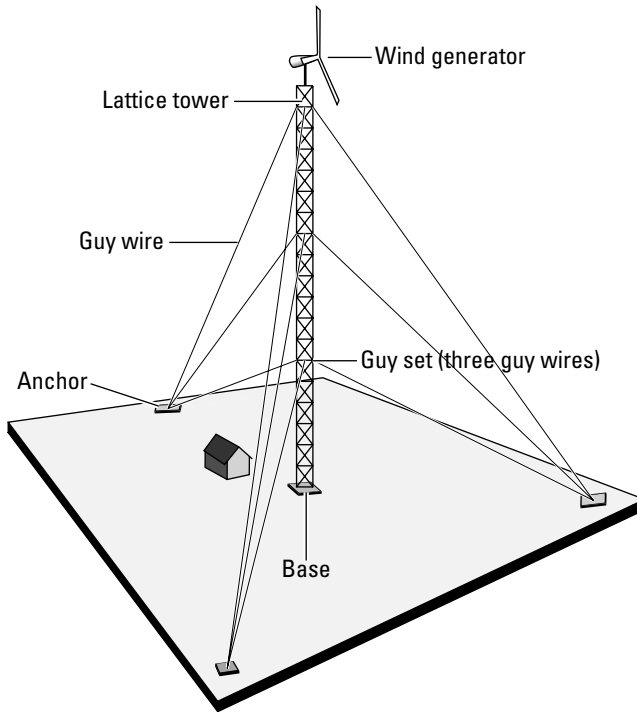

Figure 14-3:
Fixed guyed towers are very versatile because you can use them on a variety of site types and adapt them for a wide range of heights. Guy wires are attached at intervals to keep the usually lattice (but occasionally tubular) tower upright — without them, the tower would fall (see Figure 14-3). These towers don't tilt up and down. Because they're widely used, they're easily available, as is expertise for their design and installation.
- ✔ **Lattice:** Lattice towers are far and away the most common. These are the towers you see at your local radio station or in your local amateur radio enthusiast's backyard. They come in 10- or 20-foot sections, and they have either tubular or solid steel legs. They're guyed on three sides (at 120-degree intervals around the tower) and have guy wires somewhere between every 30 and 80 feet up the tower, depending on the design. (Figure 14-3 depicts a lattice tower.)